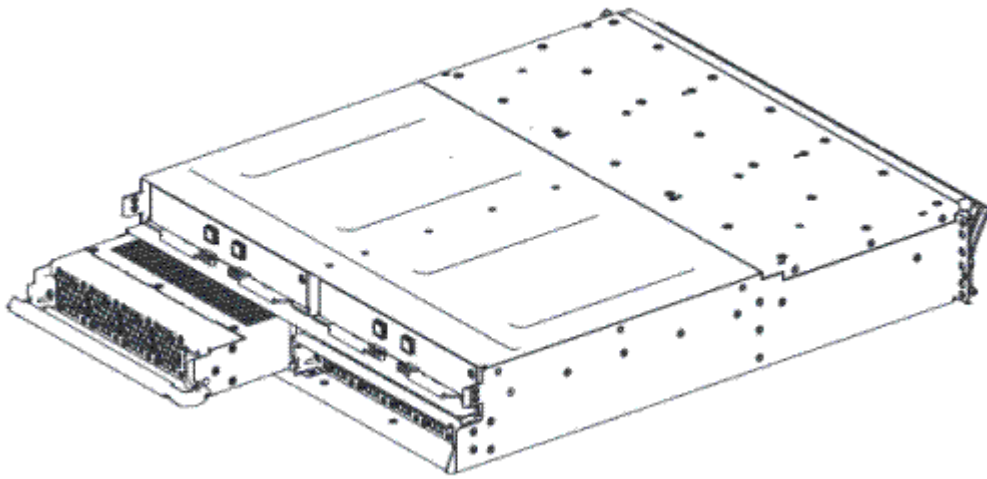

Figure 126. Removing the power supply unit from the left side of the expansion enclosure
5. Using the handle, gently slide the power supply out of the enclosure, as shown in Figure 126 on page 164.